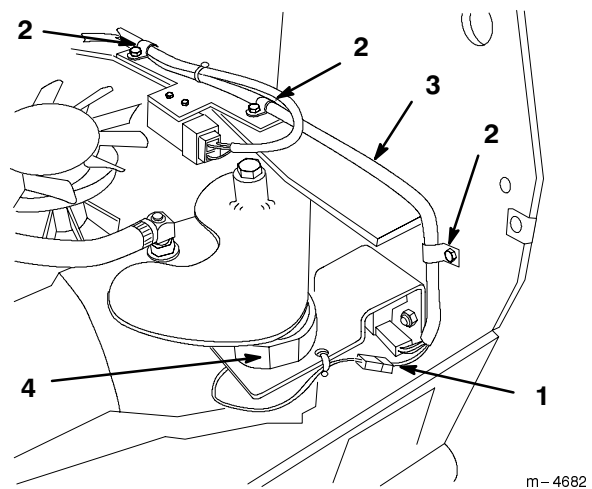

Figure 8
3. Remove the R-clamps along the right frame of tractor (Fig. 8).
4. Install harness wire into the existing conduit for the reverse switch (Fig. 8).
5. Install the R-clamps along the right frame of tractor (Fig. 8).
Note: Install R-clamps correctly as shown in figure 8.